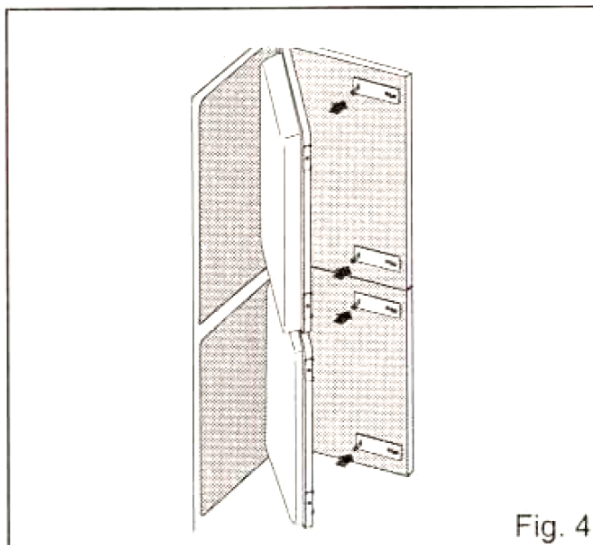

Fig. 4
- 6)** Fix the slides, being careful not to move them while fixing them into place (Fig. 4, at left).